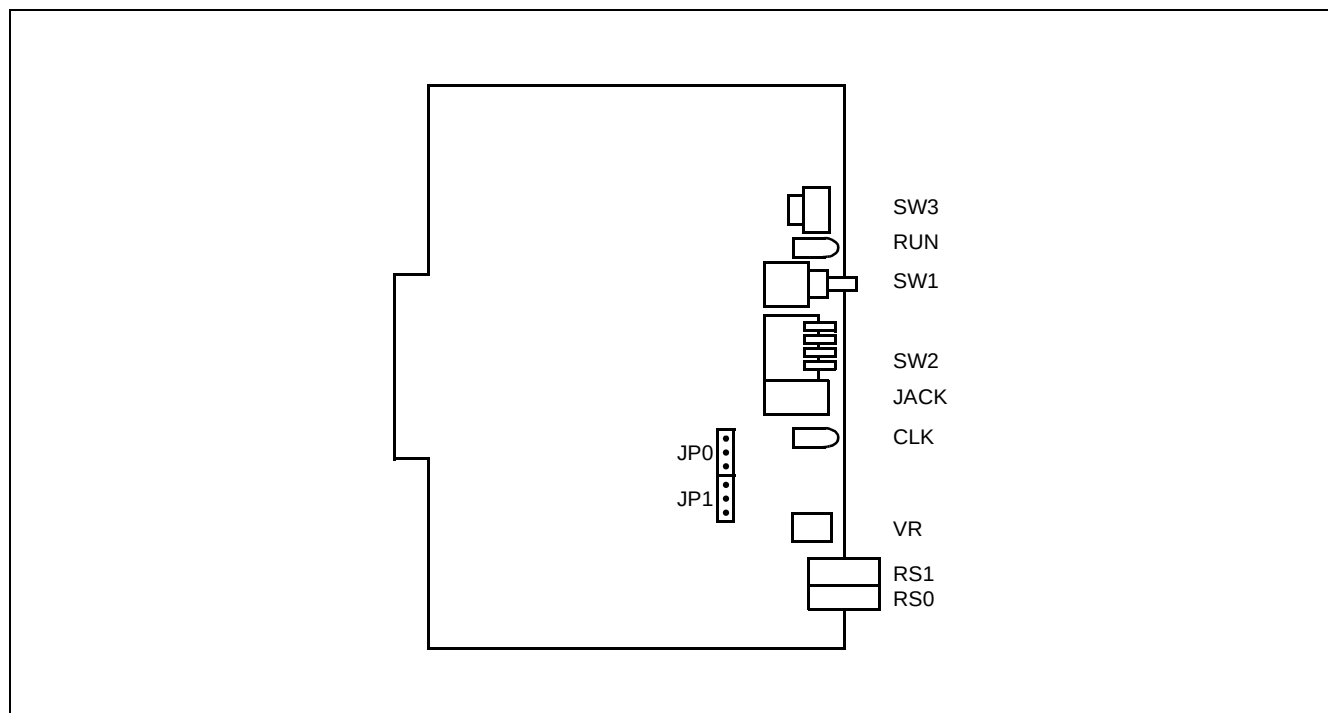

Figure 008-1 PN-CP03 (MP) Card
- (1) Locations of Lamps, Switches, and Connectors (see Figure 008-1)